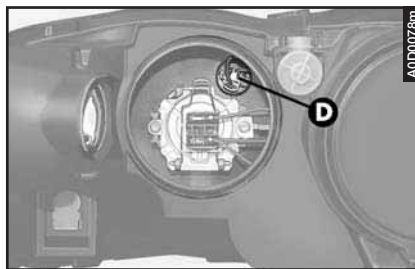

fig. 46
- Press the two retaining tabs and remove the bulb holder (**D- fig. 46**).